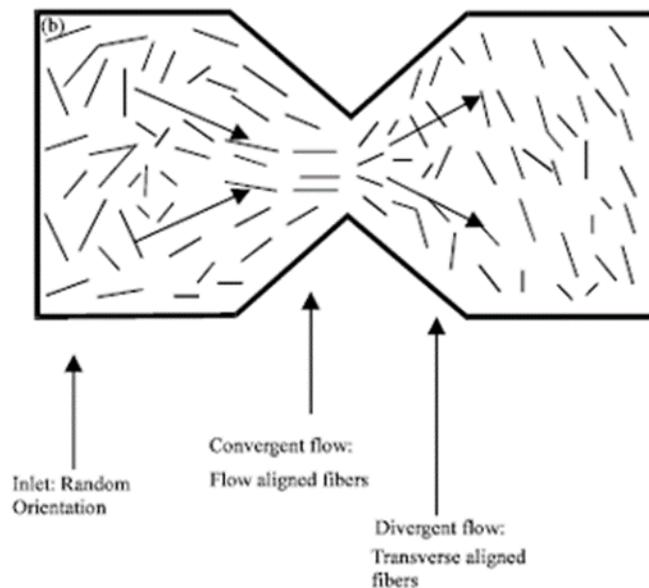

Figure 7⁽⁷⁾
- The directional shrinkage varies both from lot to lot and within a part – as an example the density and orientation of glass concentration can vary from part to part and lot to lot. The part will shrink less in the direction of flow where the fibers are also similarly aligned. If the fibers are aligned in a direction at right angle to the flow, the shrinkage will be more. Exact concentration and alignment of the fibers will vary from part to part. See Figure 7.